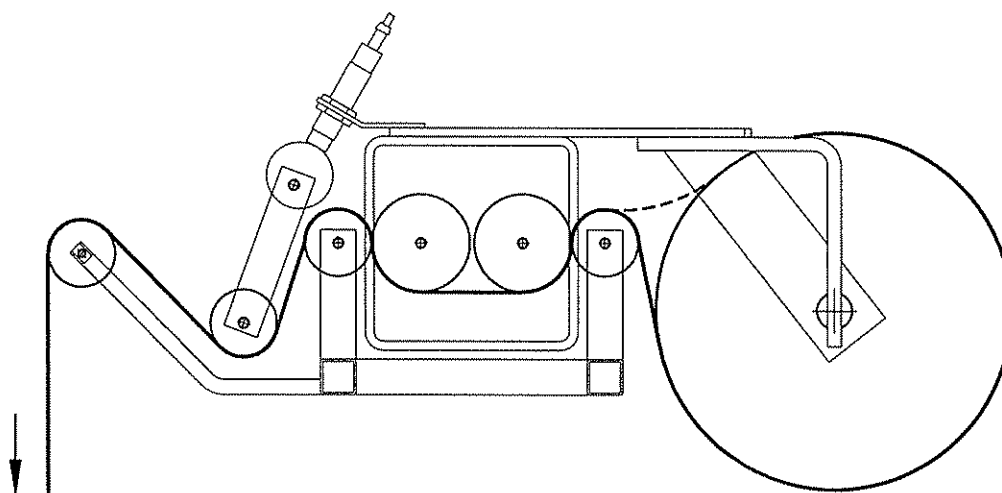

Fig. 2 CLOSED CRADLE
8. When the film feeding is completed (Fig. 2) - turn the power switch on